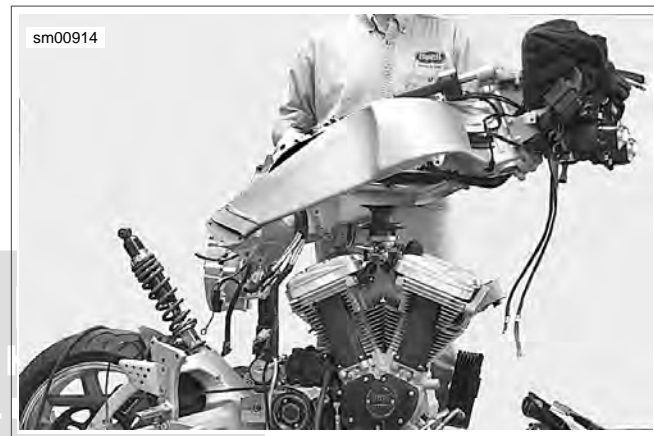

Figure 2-117. Lift Frame Off Motorcycle
10. See Figure 2-117. Lift and remove frame from the motorcycle.